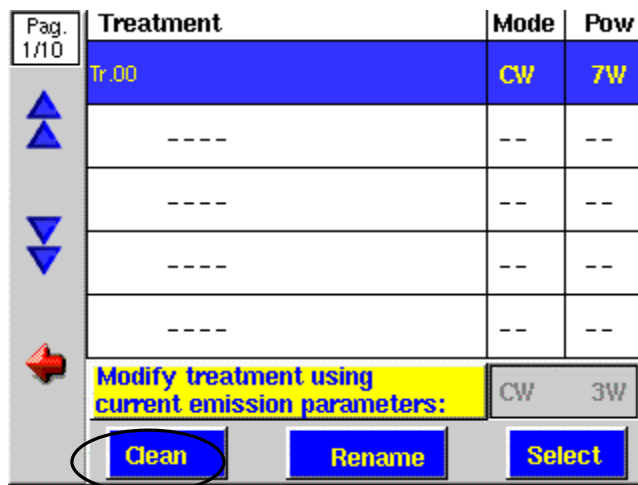

Figure 18: How to clean a treatment
- ?? Touch the "Clean" field highlighted in Figure 18.